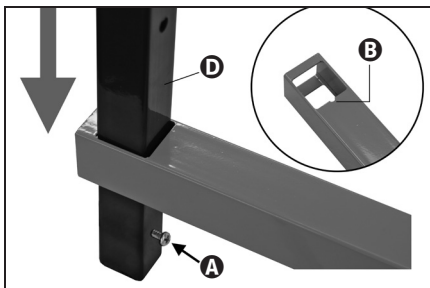

Figure 1
1. Locate the bottom of the long vertical bar. It has a small screw hole 1/2 inch (13mm) from the end. Insert a screw **A**. Locate the bottom of an orange horizontal bar **B**. It has a small notch as shown in the inset photo. Slide the orange bar down the length of the vertical bar from the top until it rests in position against the screw. Figure 1.